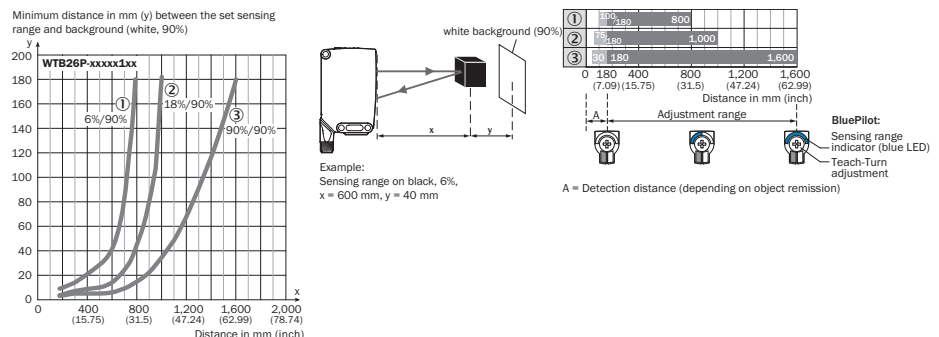

Figure 3: Characteristic line 1, WTB26P-xxxx1xx, red light
The minimum distance (= y) for the background suppression can be determined from the diagram [figure 3 ①] as follows: